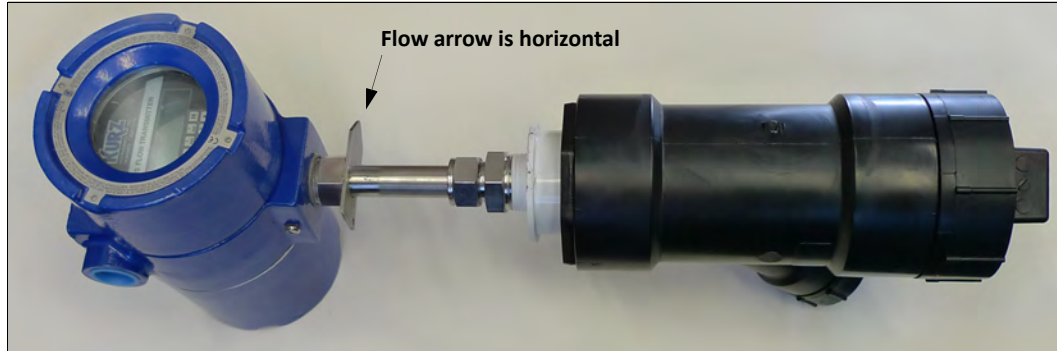
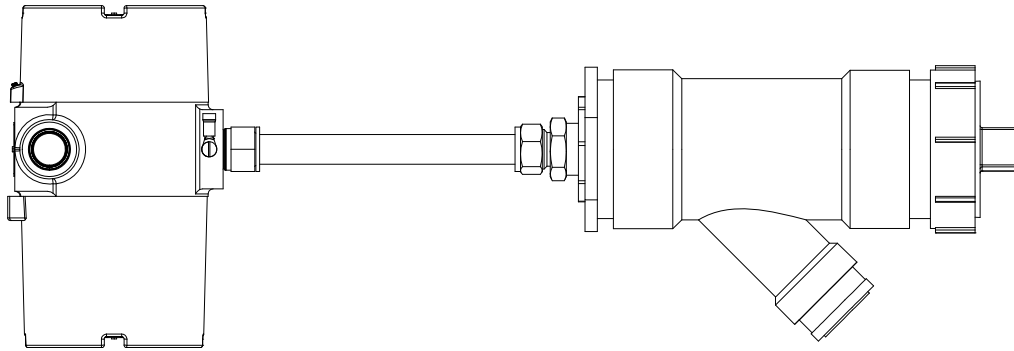

Figure C-2. Flow meter position for Zero Flow calibration test — example
Figure C-3. Flow meter position for Zero Flow calibration test — illustration
- 6> Ensure the probe support is horizontal with the flow arrow pointing horizontally, as shown in Figure C-2 and Figure C-3.